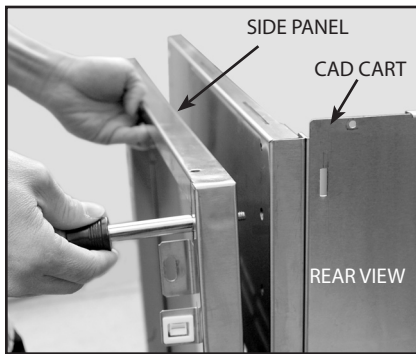

Fig. 15
4. With the grill head out of the cart, place the corresponding wrapper side panel against cart side. Align the holes at the top front and rear side corners and install hex bolts (1/4-20 X 1/2 HEX BLT) and locking nuts (1/4-20 HEX NUT) provided with hardware kit, using the second hole from the top on the cart panel and top hole on the wrapper panel (Fig. 15). Do not tighten at this point.